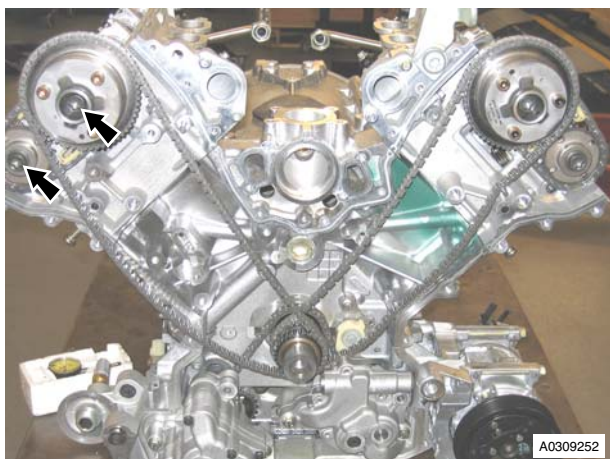

Figure 1
2. Remove the two M12 Torx bolts that attach the inlet and exhaust camshaft sprockets to camshafts (refer to Figure 1)..